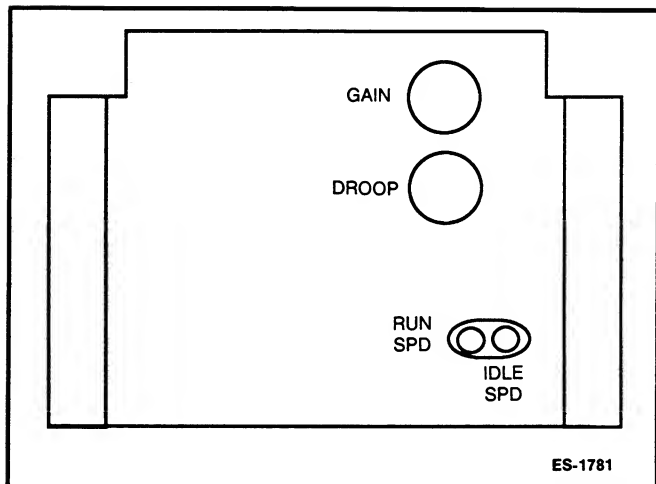

FIGURE 8-3. ELECTRIC GOVERNOR
Generators which are to operate at 60 Hz full load, must have the engine no-load governed speed adjusted to; (see Figure 8-3):
For generators which are to operate at 50 Hz full load, the engine no-load governed speed must be adjusted to; (see Figure 8-3):
For isochronous operation, the droop potentiometer (see Figures 8-3 and 8-4) must be turned fully counter-clockwise and will not require any further adjustment.
2. Make sure the engine speed is constant. If the engine speed is constant, turn the Gain potentiometer (see Figures 8-3 and 8-4) clockwise slowly until the engine speed is not constant.